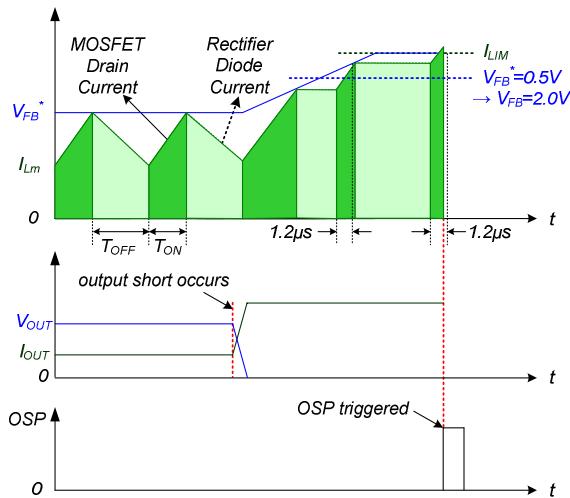

Figure 22. Output Short Protection
4.3. Output Short Protection (OSP): If the output is shorted, steep current with extremely high di/dt can flow through the SenseFET during the minimum turn-on time. Such a steep current brings high-voltage stress on drain of SenseFET when turned off. To protect the device from such an abnormal condition, OSP is included. It is comprised of detecting V_{FB} and SenseFET turn-on time. When the V_{FB} is higher than 2V and the SenseFET turn-on time is lower than $1.2\mu\text{s}$, the FSGM0565R recognizes this condition as an abnormal error and shuts down PWM switching until V_{CC} reaches V_{START} again. An abnormal condition output short is shown in Figure 22.